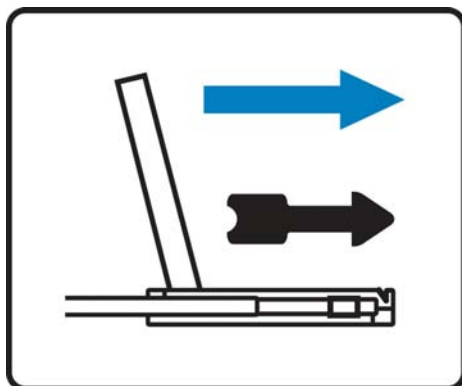

Figure 15
- Pull and hold the black arrow button on either side of the LCD keyboard drawer to unlock. (shown in **Figure 15**).